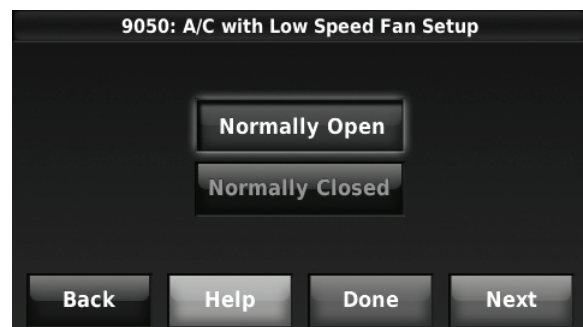

Fig. 224.
5. Select whether the U1, U2, or U3 terminals are Normally Open or Normally Closed. See Fig. 224.